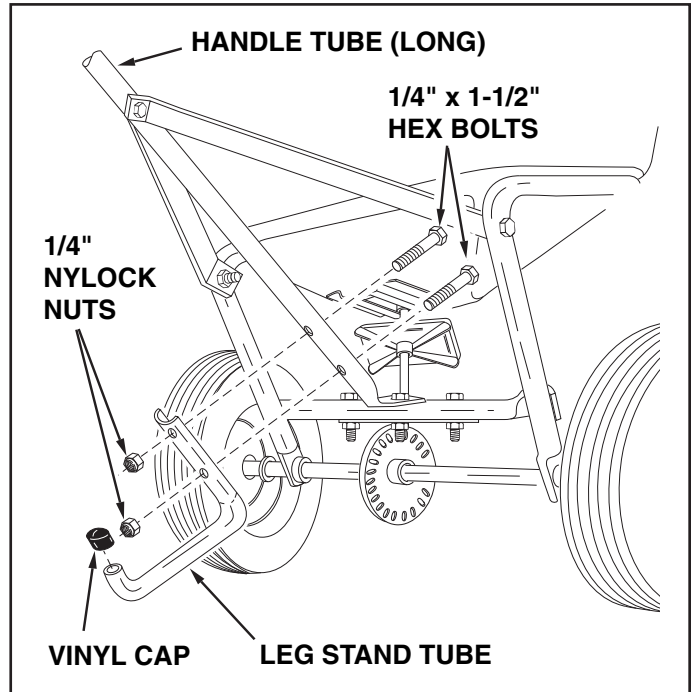

FIGURE 6
13. Assemble the leg stand tube to the handle tube (long) using two 1/4" x 1-1/2" hex bolts. Secure tightly with two 1/4" nylock nuts. See figure 6.
14. Place a vinyl cap over the end of the leg stand tube. See figure 6.